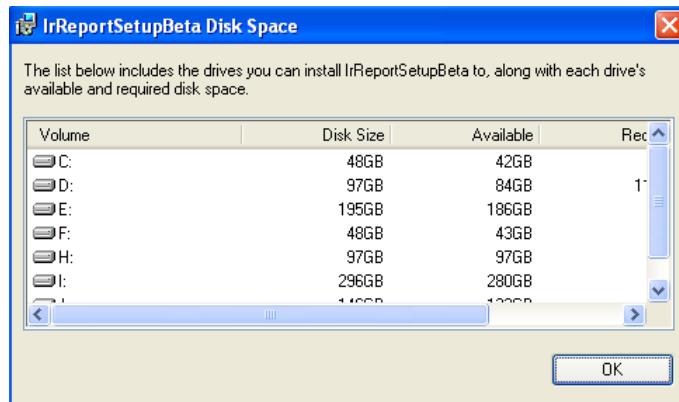

Fig. 1.2.4
- Click Disk Cost button to ensure there is enough space on your selected drive, and then click OK button (see Fig. 1.2.4);